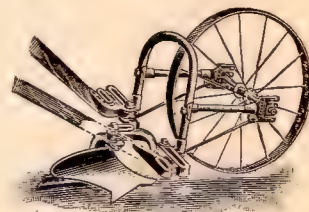

Fig. 82
**Landside Plow.**—Fig. 82 shows another attachment which seems to leave but little desired or possible, to make the No. 1 "IRON AGE" Double Wheel Hoe perfect. The cut plainly shows the Landside Plow following in line with the single wheel, which converts the tool into a *perfect*